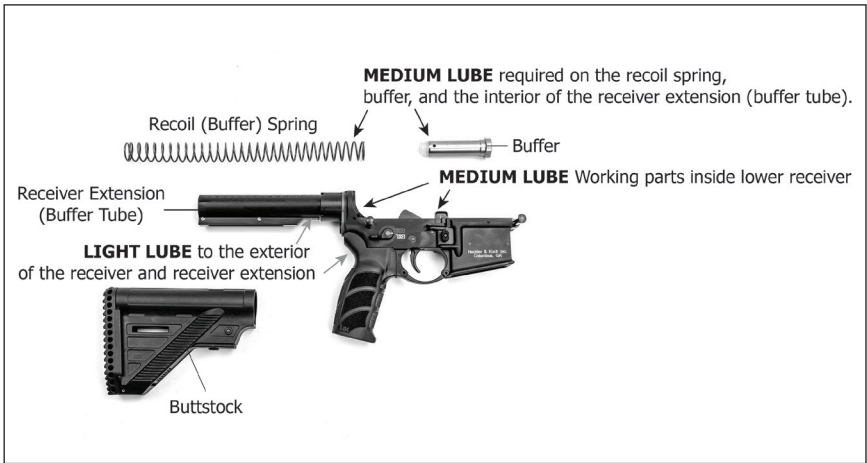

Fig. 56 – Lubrication of MR A4 Lower Receiver Assembly
**LOWER RECEIVER ASSEMBLY (FIG. 56 & 57)**